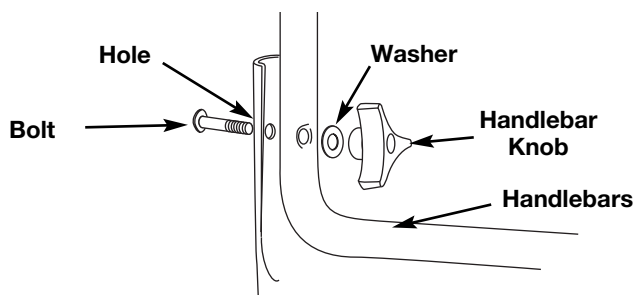

Fig. 2
3. Tighten the knobs to secure the handlebars in place (Fig. 2).